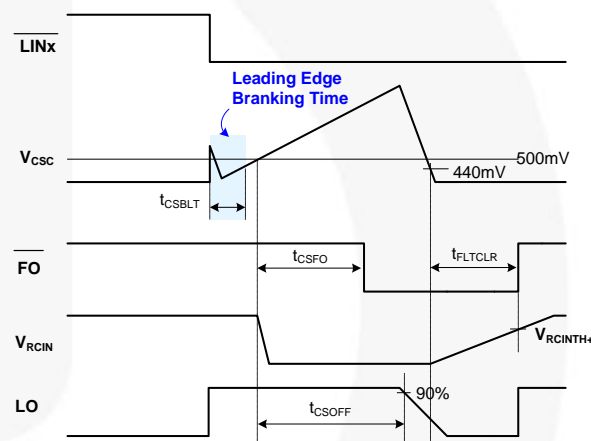

Figure 43. $RCIN$ and Fault-Clear Waveform Definition
Figure 43 shows the waveform definitions of $RCIN$, \overline{FO} , and the low-side driver; which uses a soft turn-off method when an under-voltage condition of the low-side gate driver supply voltage (V_{DD}) or the current-sense pin (CS) recognizes a fault. If a fault condition occurs, the \overline{FO} Pin is internally pulled to COM and all outputs (HO1,2,3 and LO1,2,3) of the gate driver are turned off. Low-side outputs decline linearly by the internal sink current source ($I_{SOFT}=40\ mA$) for soft turn-off, as shown in Figure 43.